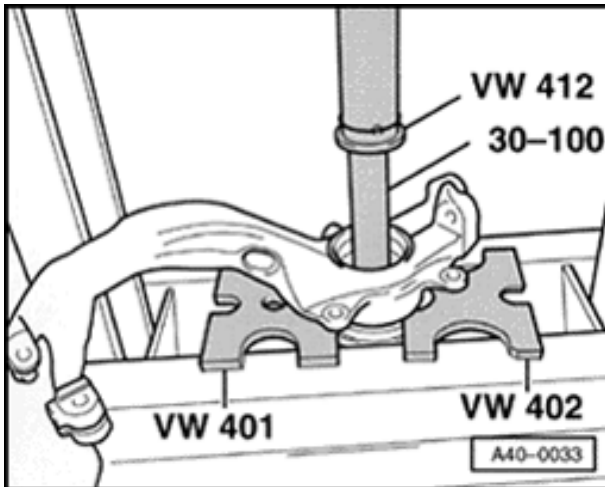

Fig. 2 Pressing wheel hub out of wheel bearing housing with 82 mm diameter
- ◆ Pressing out 82 mm dia. ⇒ Fig. 2